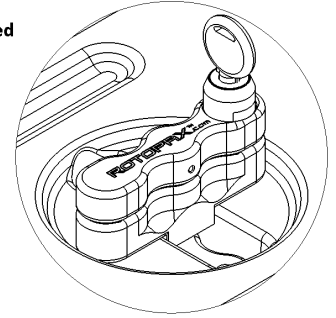

Figure 20
Step 4 - To remove lock, insert key into lock, twist key and pull out (see **Figure 20**).